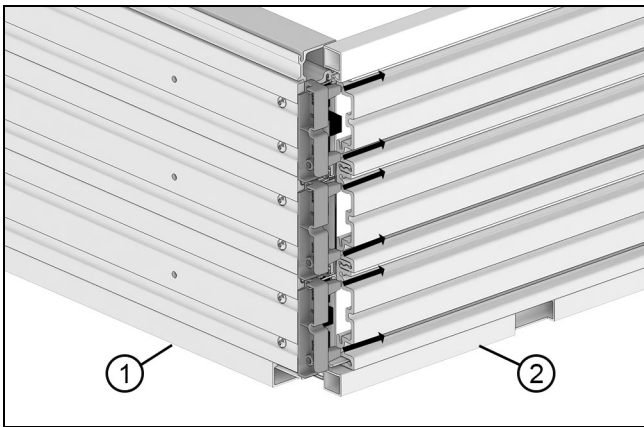

Figure 48
7. Slide the lower jamb corner keys into the sill. See Figure 48.